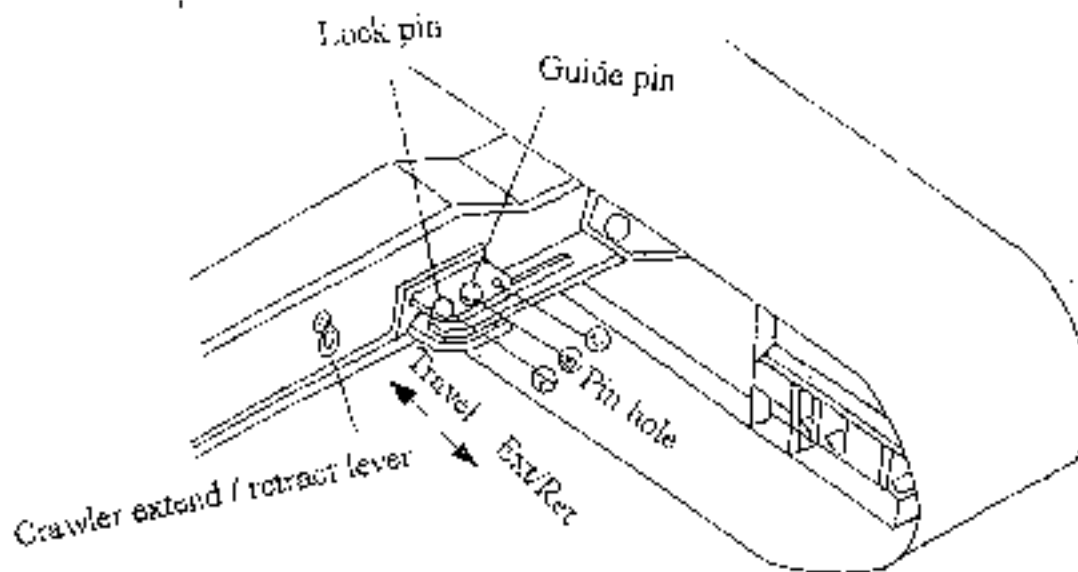

Fig. 9 Crawler in Extended State
- a. Pull out the crawler extend/retract handle (see Fig. 9).
- 2). Pull out the crawler extend/retract handle. (Fig. 9)
- 3). Pull 4 lock pins out of the pinhole C. (Fig. 9)